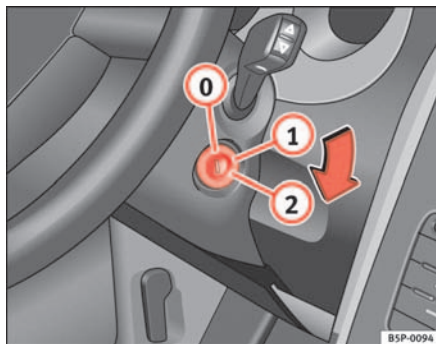

Fig. 131 Ignition key positions
In the position ⇒ fig. 131 the ignition and the engine are OFF and the steering may be locked.
- Turn the ignition key to position ⇒ page 157, fig. 131 ①. The indication lamp  will light for engine pre-heating.
- When the warning lamp goes out, turn the key to position ② to start the engine. Do not press the accelerator.
- Turn the ignition key to position ⇒ page 157, fig. 131 ①.